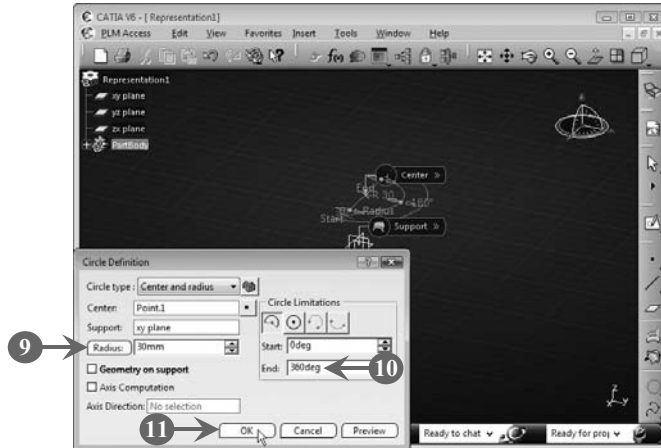

FIGURE 5.22
The support surface is added to the **Support** box in the **Circle Definition** dialog box (Figure 5.22).
- Enter* a value representing the radius of the circle in the box beside the **Radius** button (Figure 5.22). In our case, we have entered **30 mm**.
10. Enter **360deg** in the **End** box in the **Circle Limitations** group (Figure 5.22).
11. Click the **OK** button to close the **Circle Definition** dialog box, as shown in Figure 5.22: